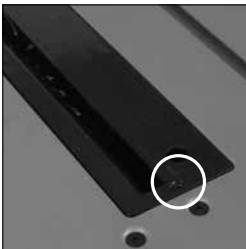

Fig. 35
- Remove the table access plate by removing the countersunk head screw from the front edge of the access plate. **(Fig. 35)**